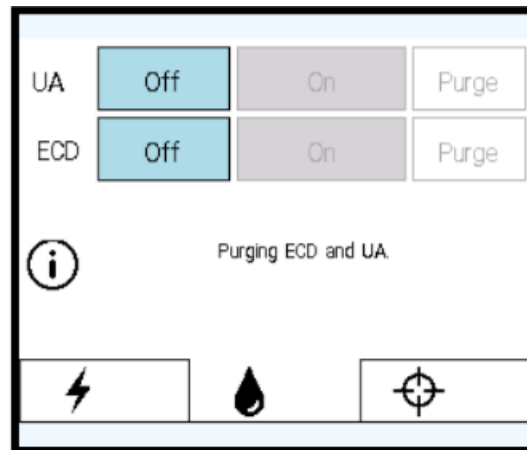

Figure 10: PSIB Display - Fluid Circuit tab
5. On the PSIB display, choose the **Fluid Circuit** tab  (Figure 10) and **Purge** the UA and ECD fluid circuits. You can also do this from the TDC by pressing **PURGE** beside the fluid circuit (FC) quadrant (Figure 11).